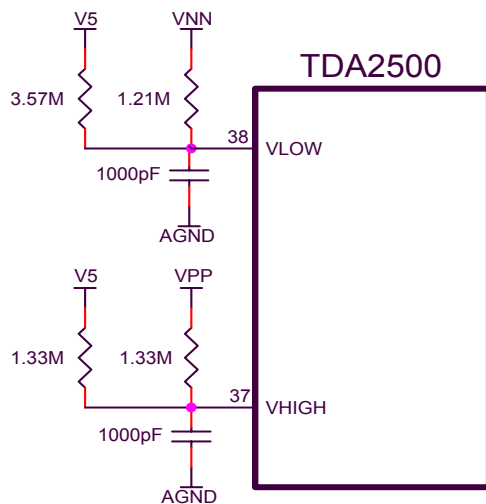

Figure 8: Voltage Supply Sensing Structure for TA0104A Emulation
- Add the resistor dividers to both VLOW and VHIGH as shown in Figure 8. These resistors lower the supply range of the TDA2500 to roughly +/-60V to +/-93V, with a maximum undervoltage turn on voltage of +/-55V, assuming worse case tolerances. It should be noted that the TA0104A voltage specification of +/-55V to +/-92V were the undervoltage and overvoltage turn on points, not the inner hysteresis band. The “hot side” of the VNN and VPP resistors should be connected to pin 24 and pin 23, respectively. Surface mount types can be used (1/8W is fine) though the resistors need to 1% tolerance. Please note that the recommended resistor values are slightly different than those used in the TA0104A. This was done intentionally to produce a symmetrical supply range for VPP and VNN.